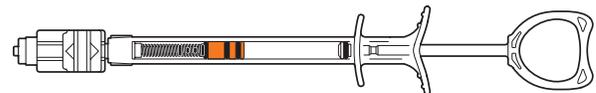

Figure 3 – First click position
- 1.9. Submerge the free end of the extension line in sterile saline solution. Slowly draw plunger back to the first click position (Figure 3) to fill the syringe.